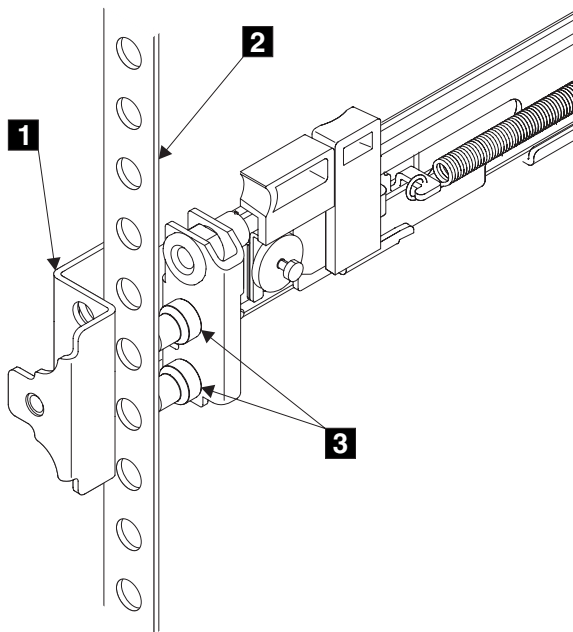

Figure 77. Installing the front end of the rail
6. Place the front end of the left rail in the rack cabinet. Align the top of the front bracket **1** (Figure 77) with the required EIA marking that is on the rack.